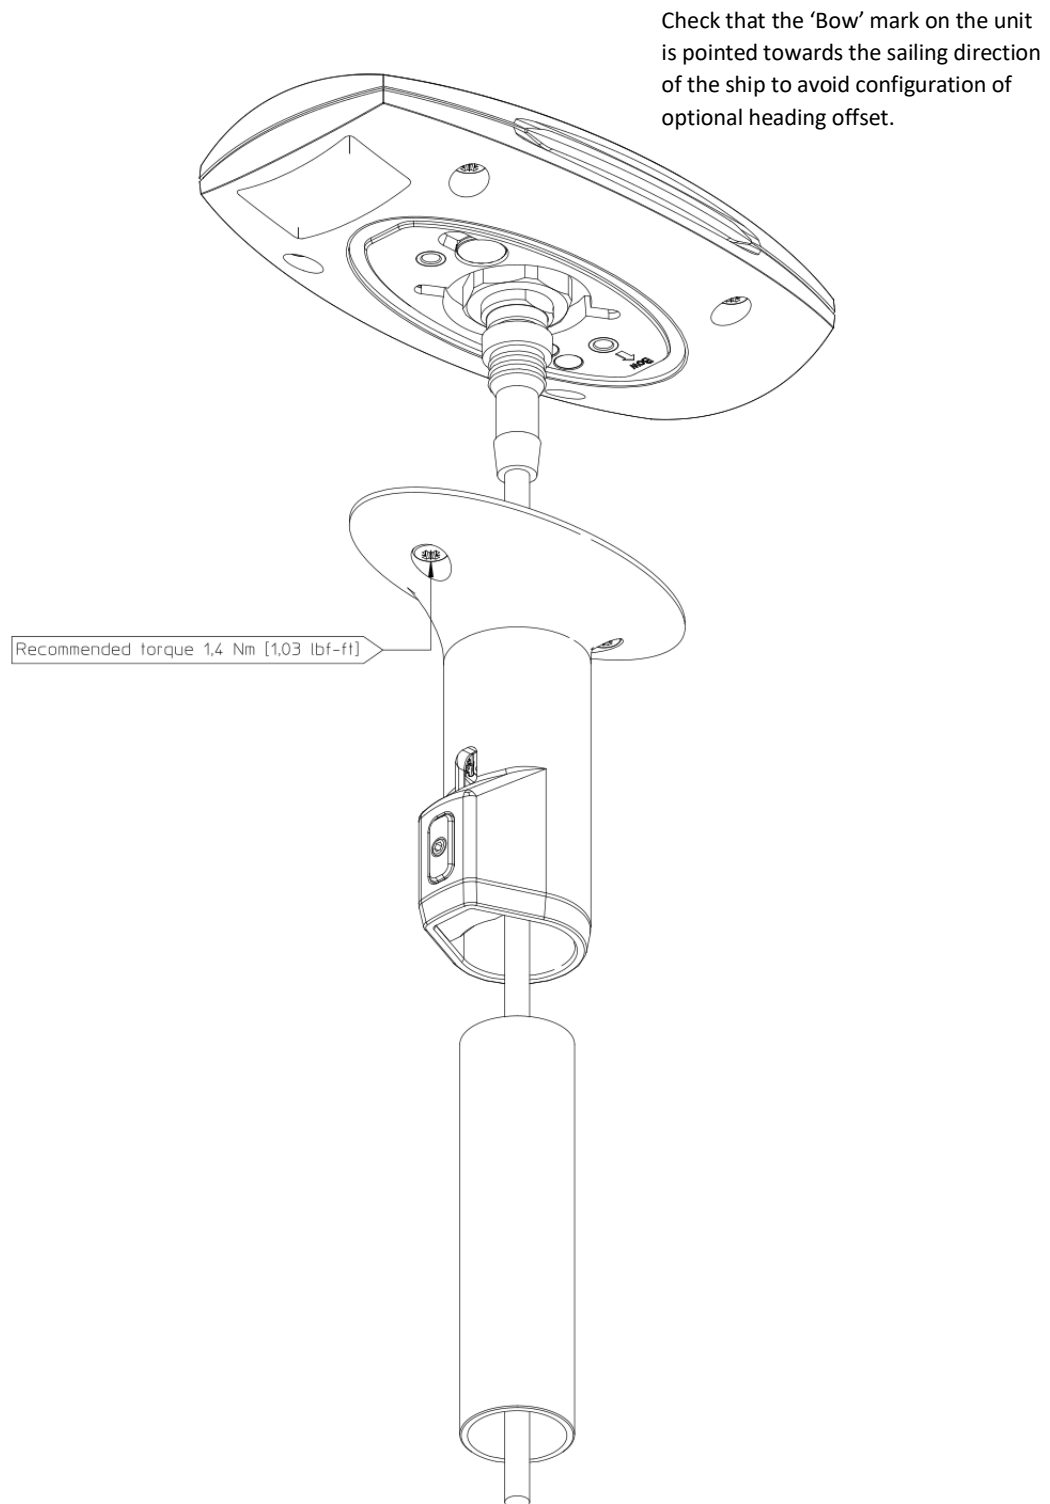

FIGURE 17: POLE MOUNT INSTALLATION STEP 6 (SECURING THE TWO STAINLESS A4 SCREWS)
Step 6: Fasten the pole mount by securing the two stainless A4 screws onto the LT-1000 NRU as illustrated in Figure 17.